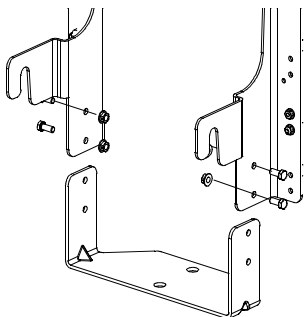

Figure 6
- Position the Support Cross Bracket (Ref. No. 1) between the LH Support Catcher Bracket (Ref. No. 2) and the RH Support Catcher Bracket (Ref. No. 3). Orient the Support Cross Bracket as shown in Figure 6.
- Install the four (4) Hex Head Screws (Ref. No. 6) through the LH and RH Support Catcher Brackets and Support Cross Bracket and secure with Flanged Lock Nuts (Ref. No. 10). Do not tighten, leave slightly loose. Refer to Figure 6.